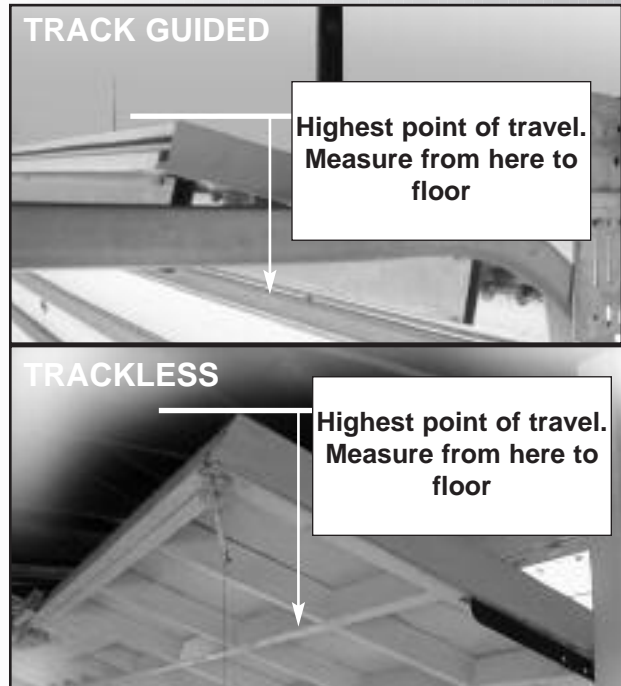

Fig. 2-2
- While raising garage door manually, watch top edge of door to see where it reaches its highest point. This is called “highest point of travel.” **Fig. 2-2.**